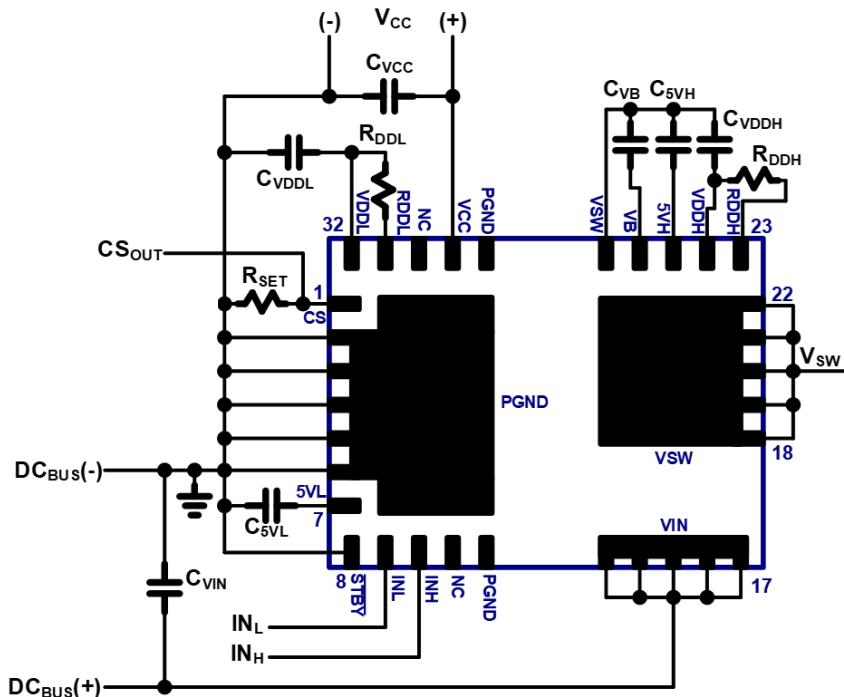

Fig. 23. IC connection diagram
The typical connection diagram for this GaN Half-Bridge IC is shown in Fig. 23. The IC pins include the drain of the high-side GaN power FET (V_{IN}), the half-bridge mid-point switched node (V_{SW}), the source of the low-side GaN power FET and IC GND (P_{GND}), low-side IC supply (V_{CC}), low-side gate drive supply (V_{DDL}), low-side turn-on dV/dt control (R_{DDL}), low-side 5V supply ($5V_L$), low-side referenced PWM inputs (IN_L , IN_H), low-side current sensing output (CS), auto-standby enable input ($STBY$), high-side supply (V_B), high-side gate drive supply (V_{DDH}), and high-side 5V supply ($5V_H$). The external low-side components around the IC include V_{CC} supply capacitor (C_{VCC}) connected between V_{CC} pin and P_{GND} , V_{DDL} supply capacitor (C_{VDDL}) connected between V_{DDL} pin and P_{GND} , turn-on dV/dt set resistor (R_{DDL}) connected between V_{DDL} pin and R_{DDL} pin, current sense amplitude set resistor (R_{SET}) connected between CS pin and P_{GND} , 5V supply capacitor (C_{5VL}) connected between $5V_L$ pin and P_{GND} , the auto-standby enable pin ($STBY$) connected to P_{GND} to enable auto-standby mode or connected to $5V_L$ to disable auto-standby mode. The external high-side components around the IC include V_B supply capacitor (C_{VB}) connected between V_B pin and V_{SW} , V_{DDH} supply capacitor (C_{VDDH}) connected between V_{DDH} pin and V_{SW} , turn-on dV/dt set resistor (R_{DDH}) connected between V_{DDH} pin and R_{DDH} pin, and 5V supply capacitor (C_{5VH}) connected between $5V_H$ pin and V_{SW} . The high side V_B , $5V_H$ and V_{DDH} bypass capacitors must be chosen carefully to accommodate various system considerations such as high side wake up time, high side hold up time and standby power.